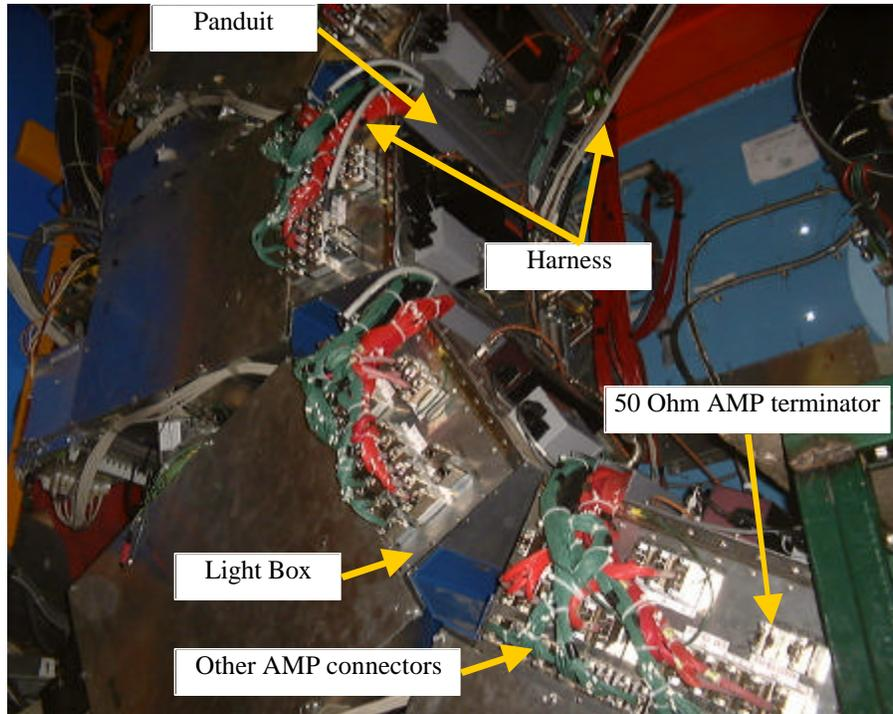

Figure 4
- Lay the harness inside the plug along the cable tray and then into the panduit for the designated Light Box (see Figure 4).